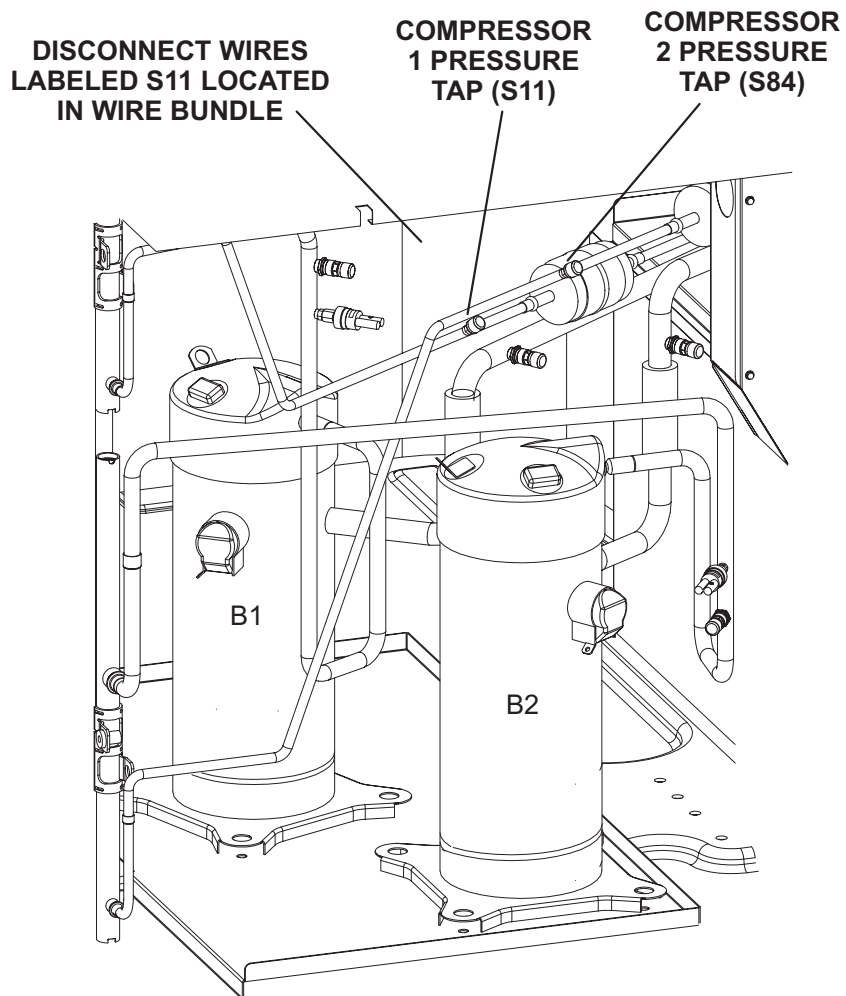
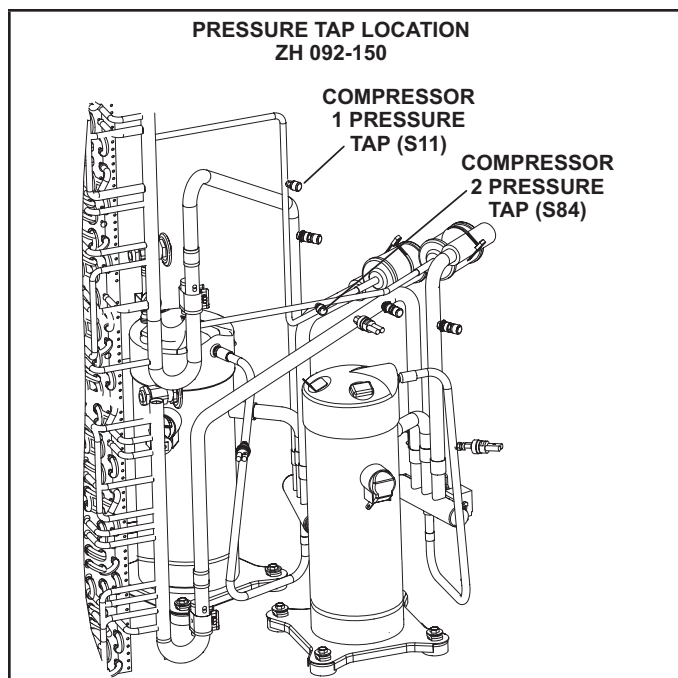

FIGURE 9
FIGURE 10
- 2 - Install valve depressor tee on liquid line pressure taps. See FIGURE 9 for ZG/ZC units and FIGURE 10 for ZH units. Install pressure switches on valve depressor tee.
- 1 - Disconnect wires marked S11 as shown in FIGURE 9.